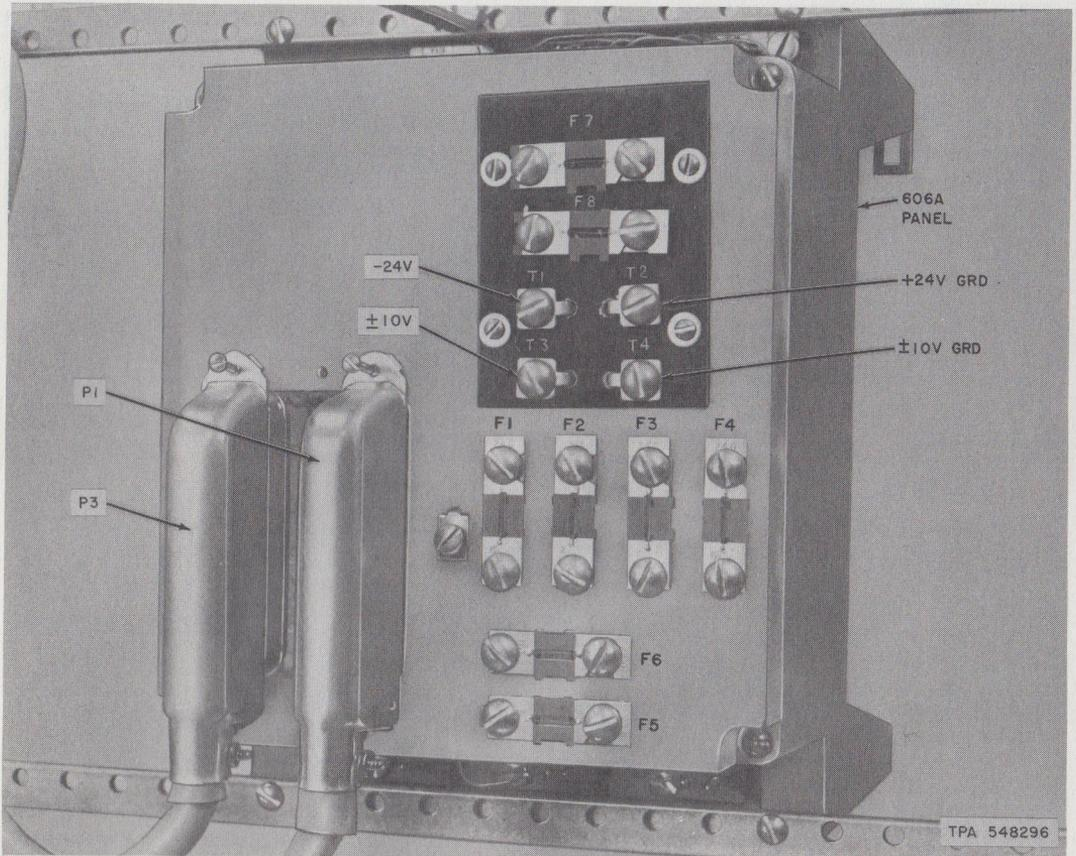

Fig. 5—606A Panel (Rear View)
1. POWER SUPPLY CONNECTS TO REAR OF 606A PANEL (SEE FIG 5).
- (Z) OPTION, VCA-CDN
- (Y) OPTION, VCA-CD5
3.16 Connect leads to the two 400D KTUs, KTS power supply, and key telephone station as shown in Fig. 5, 7, 9, and 10.